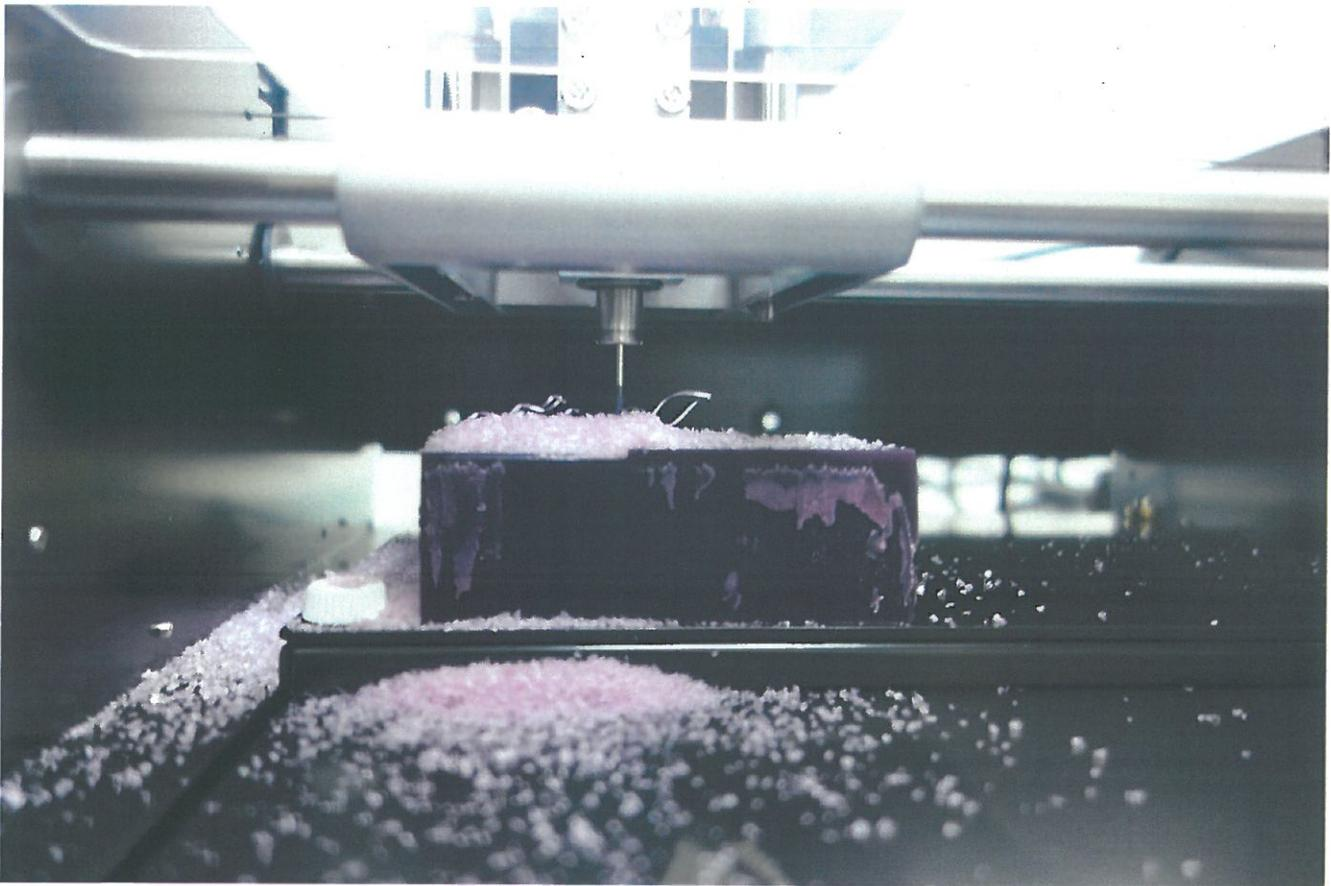

Figure 17: Modela MDX-20 Performing Surfacing Operation
17. Once the settings have been verified, click **START** on the “Layout/Surfacing” window. This will start surfacing the material (Figure 17).